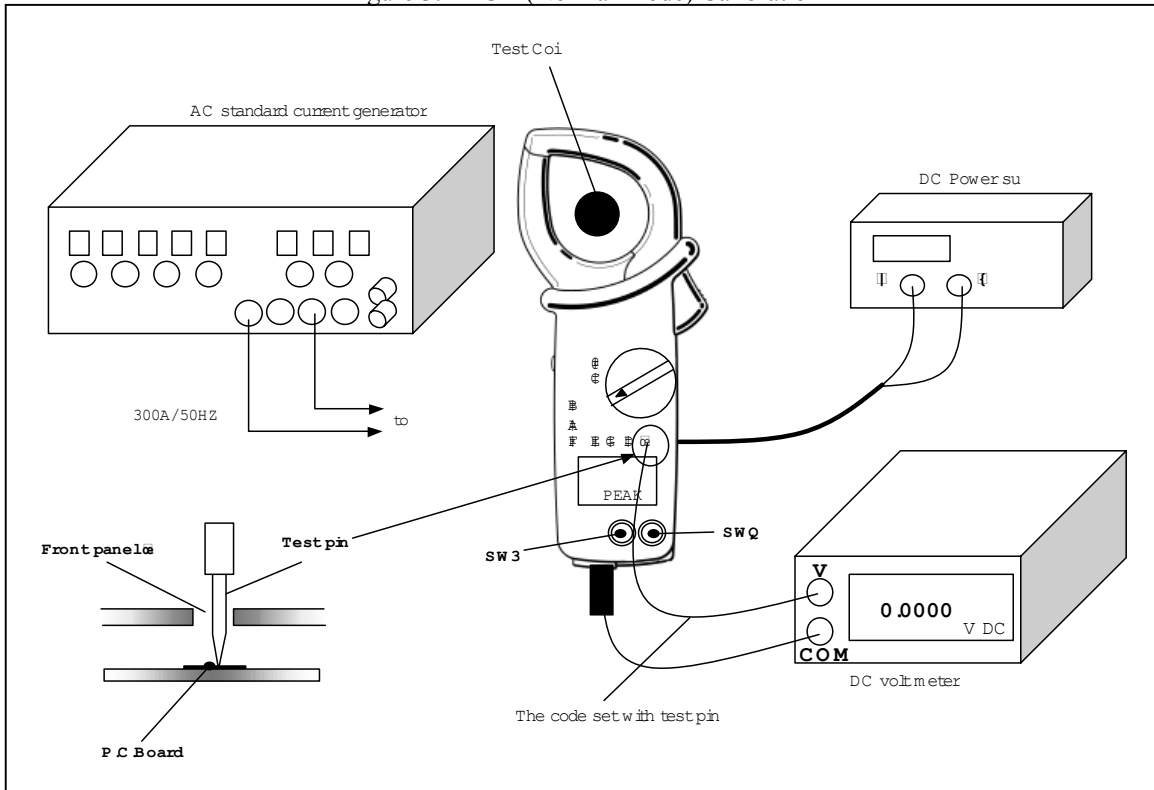

Figure 4. ACA (Peak Mode) Calibration
3. Connect the wires according to the figure 4. Set the indication of the voltmeter to 0.0000V by turning the VR3. (Confirm that the indication of the LCD is '00.0A' when press the sw3.)
4. Clamp the test coil according to the figure 4. And generate the AC current 300A/50Hz.